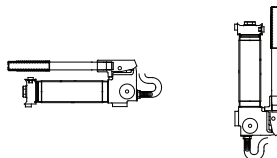

Figure 5 - Horizontal and Vertical Position
3. Pump may be used in horizontal and vertical position as illustrated in Figure 5.